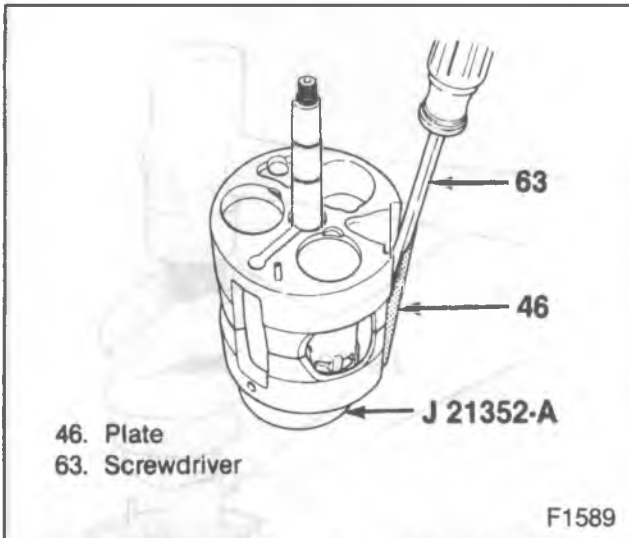
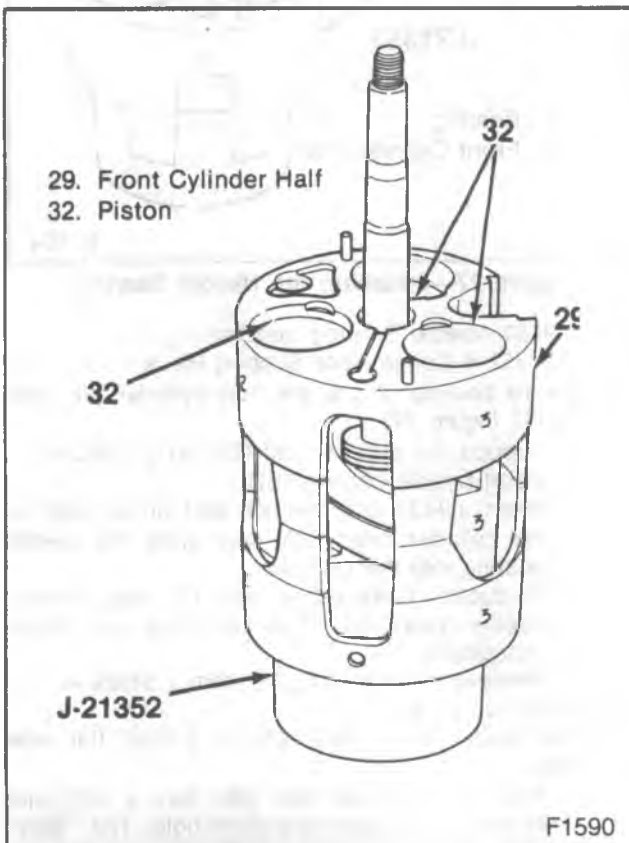

Figure 22—Removing the Rear Suction Reed Plate
Figure 23—Numbering the Pistons and Cylinders
- Front head assembly (16) from the shell (9).
- Rest the compressor shell (9) on its side and push the front head assembly (16) through the shell (9).
- Front seal (17).
- Tap on the outside of the front head (16) with a plastic hammer to overcome the friction of the seal (17) between the front head (16) and the shell (9).
- Front discharge valve plate (18).
- Front suction reed plate (19).
- Suction cross-over plate (46) (figure 22).
- Pry with a screwdriver between the casting (29) and the cover.
- Number the piston and the piston bores with the same numbers so the pistons can be installed in their bores (figure 23).